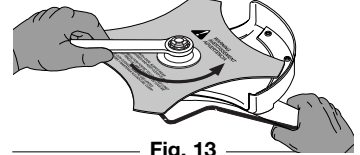

Fig. 13
- Without a torque wrench, use a 13 mm closed-end or socket wrench, turning the nut until the blade retainer is snug against the shaft bushing. Make sure that the blade is installed correctly, then rotate the nut an additional 1/4 to 1/2 turn counterclockwise (Fig. 13).